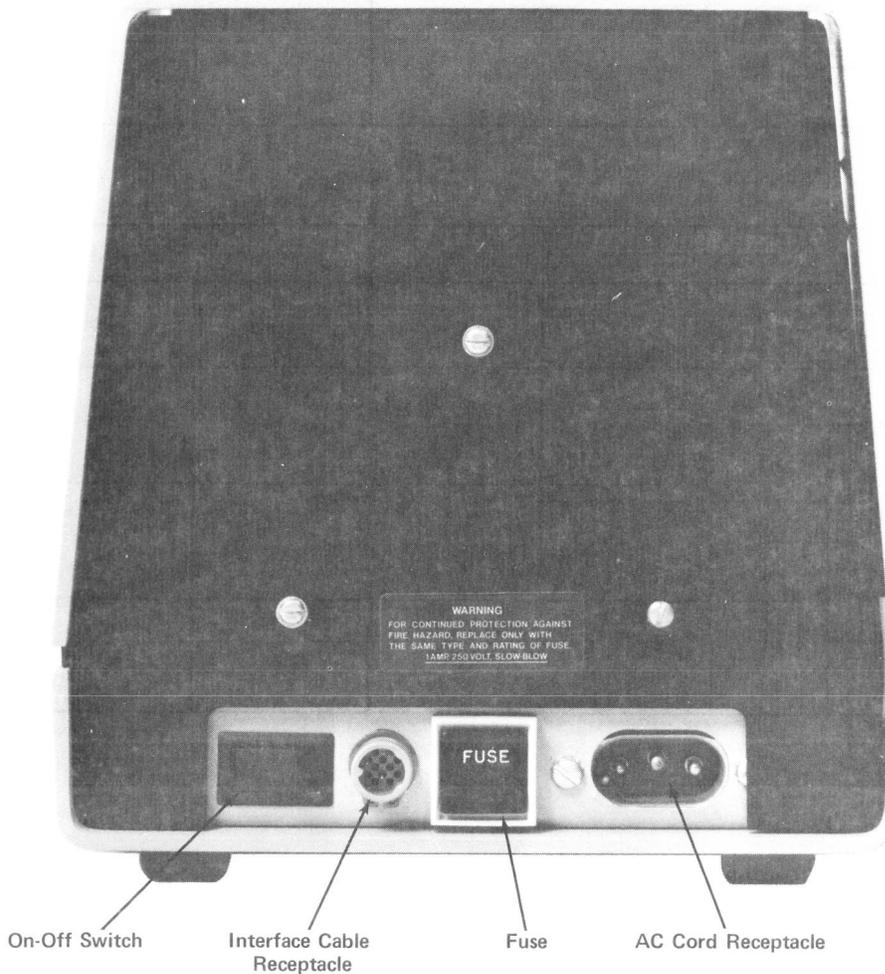

Figure 14, Interface Connections to VuSet Terminal
- d) Connect interface cable to receptacle at rear of terminal, see Figure 14. Note that the cable connector is of the push-on, pull-off type and should **not** be turned or twisted to attach or remove.